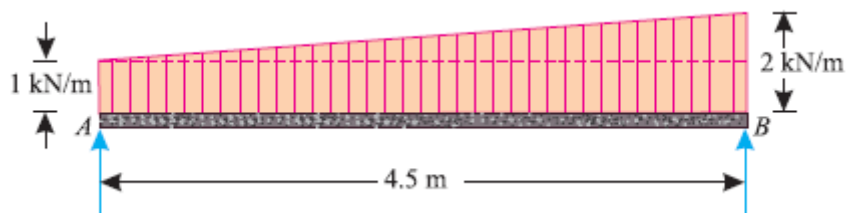

Fig.7
10. A simply supported beam AB of span 4.5 m is loaded as shown in Fig.7. Find the support reactions at A and B. [L4][12 M]